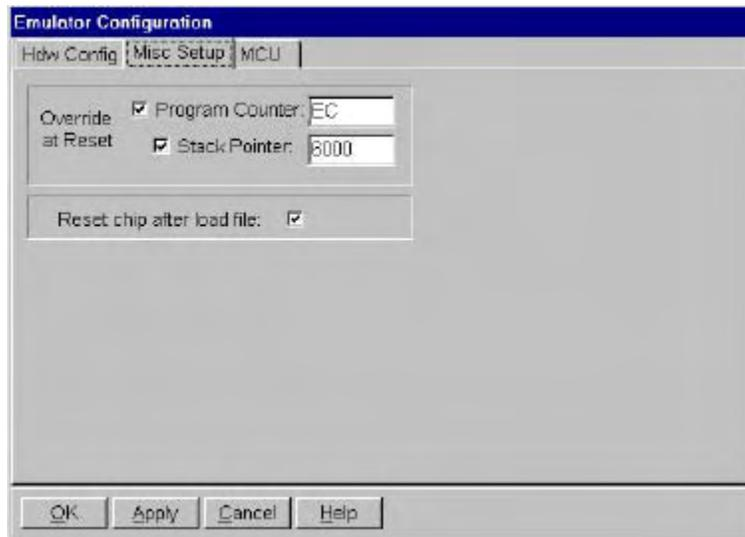

Figure 77. Miscellaneous Emulator Configuration Dialog Box
3. Click the **Misc Setup** tab at the top of the dialog box (Figure 77).